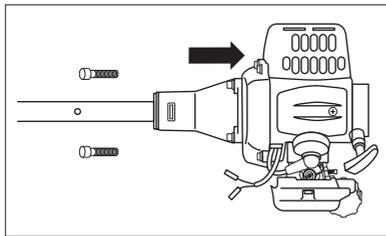

fig. 4
- Install the rod assembly to the engine using four screws (Fig. 4). In this case, the output shaft of the gearbox and the gas tank should be located on one side.